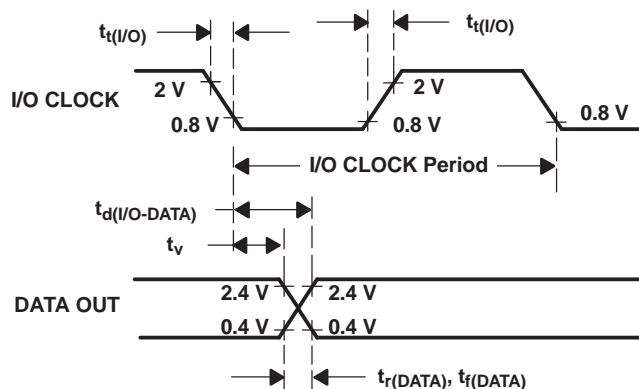

Figure 6. I/O CLOCK and DATA OUT Voltage Waveforms
- (3) Zero-scale error is the difference between 0000000000 and the converted output for zero input voltage; full-scale error is the difference between 1111111111 and the converted output for full-scale input voltage.
- (4) Analog input voltages greater than that applied to REF+ convert as all ones (1111111111), while input voltages less than that applied to REF- convert as all zeros (0000000000). The device is functional with reference voltages down to 1 V ($V_{ref+} - V_{ref-}$); however, the electrical specifications are no longer applicable.
- (5) Total unadjusted error comprises linearity, zero-scale, and full-scale errors.
- (6) Both the input address and the output codes are expressed in positive logic.
- (7) I/O CLOCK period = 1/(I/O CLOCK frequency) (see Figure 6)
- (8) Any transitions of \overline{CS} are recognized as valid only if the level is maintained for a setup time plus two falling edges of the internal clock (1.425 μs) after the transition.